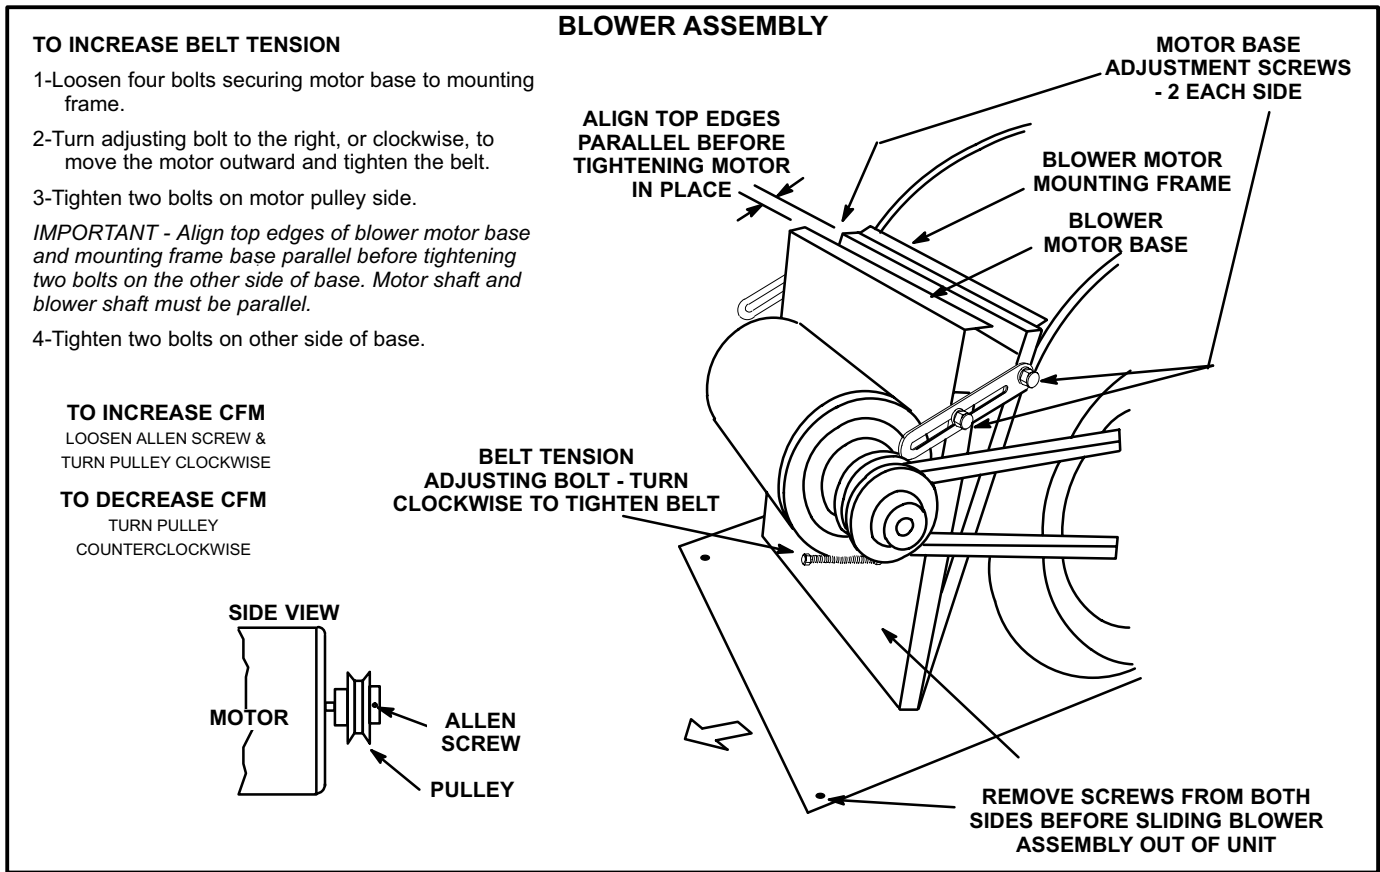

FIGURE 12
- 2- Remove screws on either side of blower assembly sliding base. See figure 12.
- 5- The blower RPM can be adjusted at the motor pulley. Loosen Allen screw and turn adjustable pulley clockwise to increase CFM. Turn counterclockwise to decrease CFM. See figure 12. Do not exceed minimum and maximum number of pulley turns as shown in table 2.
- 1- Loosen four bolts securing motor base to mounting frame. See figure 12.